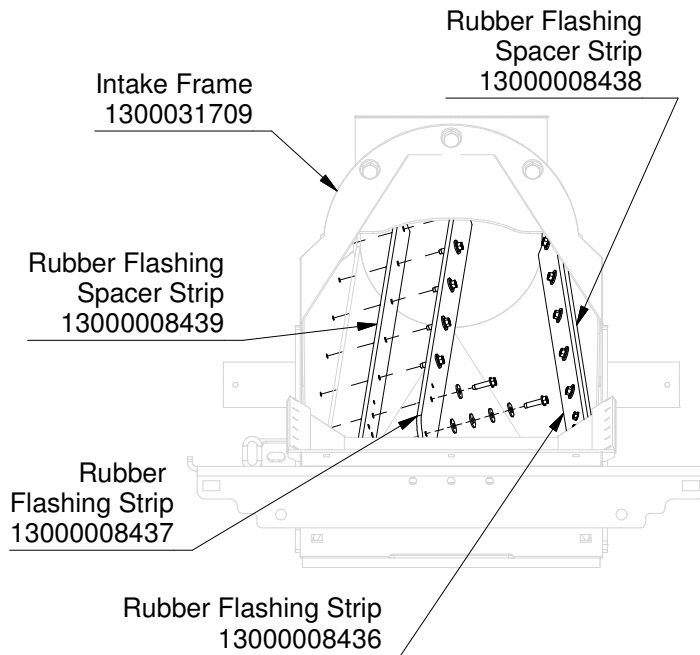

FIGURE 7
7. Once the Conveyor Assembly is complete and the Conveyor Belt is installed, fasten the Rubber Flashing Spacer Strips and Rubber Flashing Strips to the inside of the Intake Frame Assembly using (14) 1/4" x 1" Flanged Self-Tapping Screws and Flat Washers. The Nylon Slider Back of the Rubber Flashing Strips is to be facing the Frame Assembly and the 2 Ply Rubber Top is to be facing the center of the Conveyor Assembly. Use additional Flat Washers as Spacers where the Flanged Self-Tapping Screws hit the outside wall of the Intake Frame Assembly. Fasteners can be found in Bolt Bag 13000008440. See Figure 7.